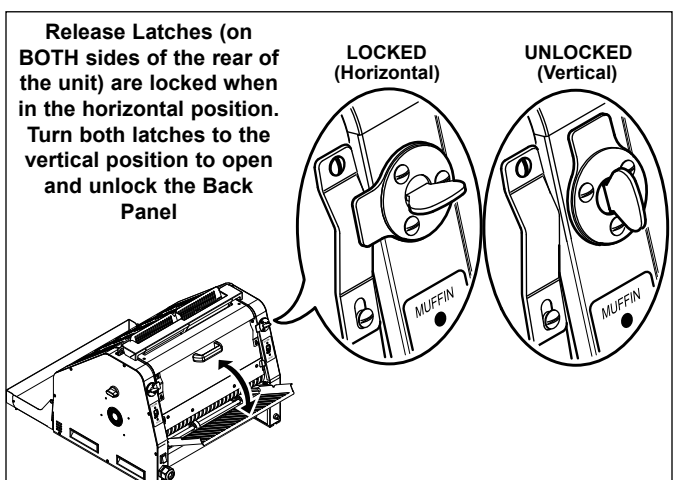

Figure 7. Back Panel Release Latches
1. Facing the rear of the unit, turn the two Back Panel Release Latches (Figure 7) so they are in the vertical position and open the Back Panel.